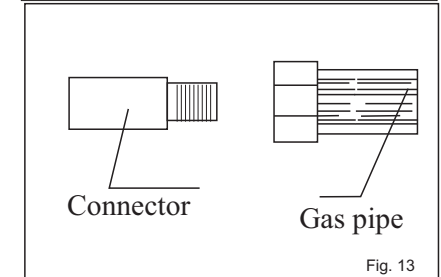

Fig. 13
- Push the rubber hose onto the hose joint as far as it will go. Do not use vinyl plastic hose, as this can be dangerous. Secure the hose (Fig. 13) see to it that the rubber hoses does not touch a part of the gas cooker nor lies underneath it.